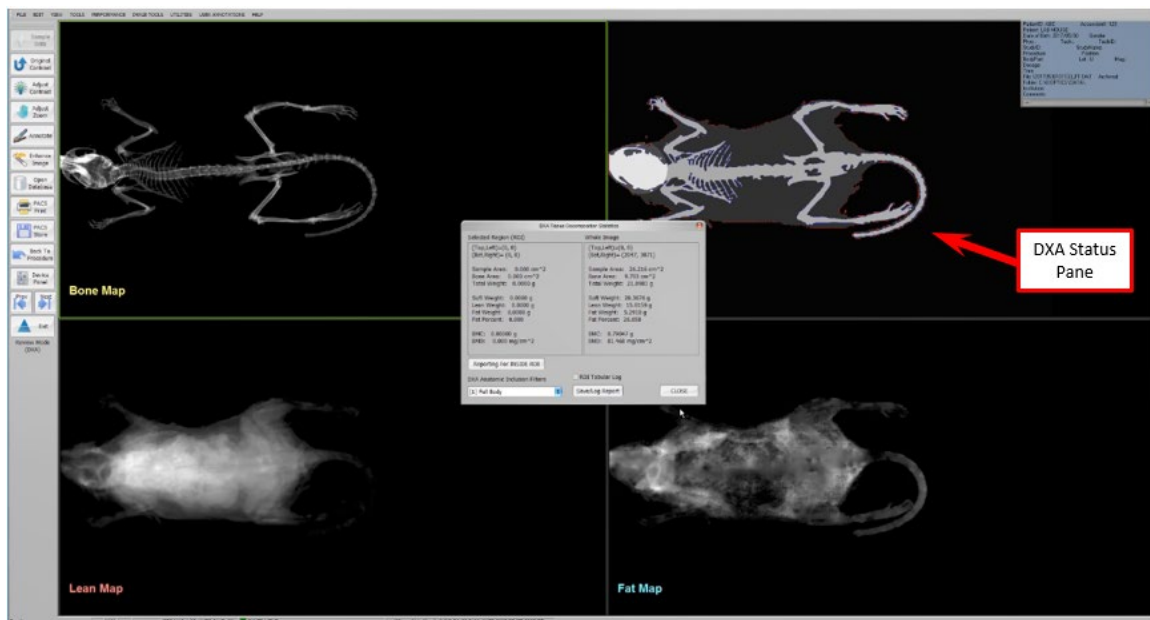

Figure 21: 4-Pane Review Window and DXA Tissue Decomposition Statistics
5. The DXA Status map, located in the top right, indicates areas of bone (medium gray), the skull (light gray), the bone region of interest, indicated with a blue periphery, and soft tissue (dark gray). *See figure 21.*